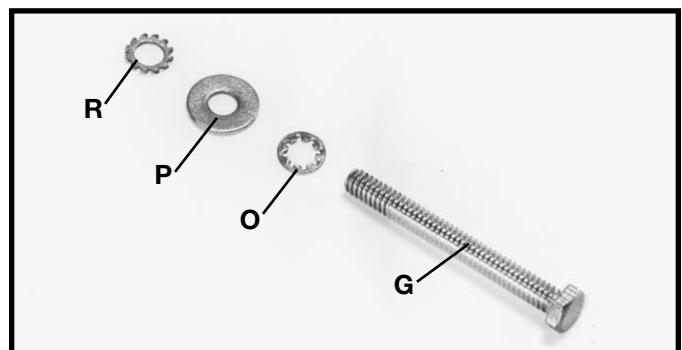

Fig. 10
5. Locate the 1/4-20x2½" hex head screw (G) Fig. 10, and assemble the 1/4" internal tooth lockwasher (O), M6.4 flat washer (P) and 1/4" external tooth lockwasher (R) onto screw (G).